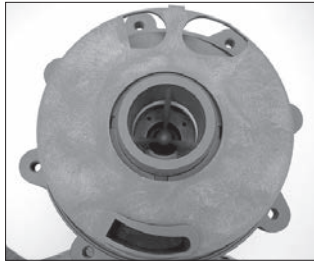

Figure 17
7. Pull the separator plate (item 4) off the inner volute (item 6). See figure 17. Inspect for damage and cracks.